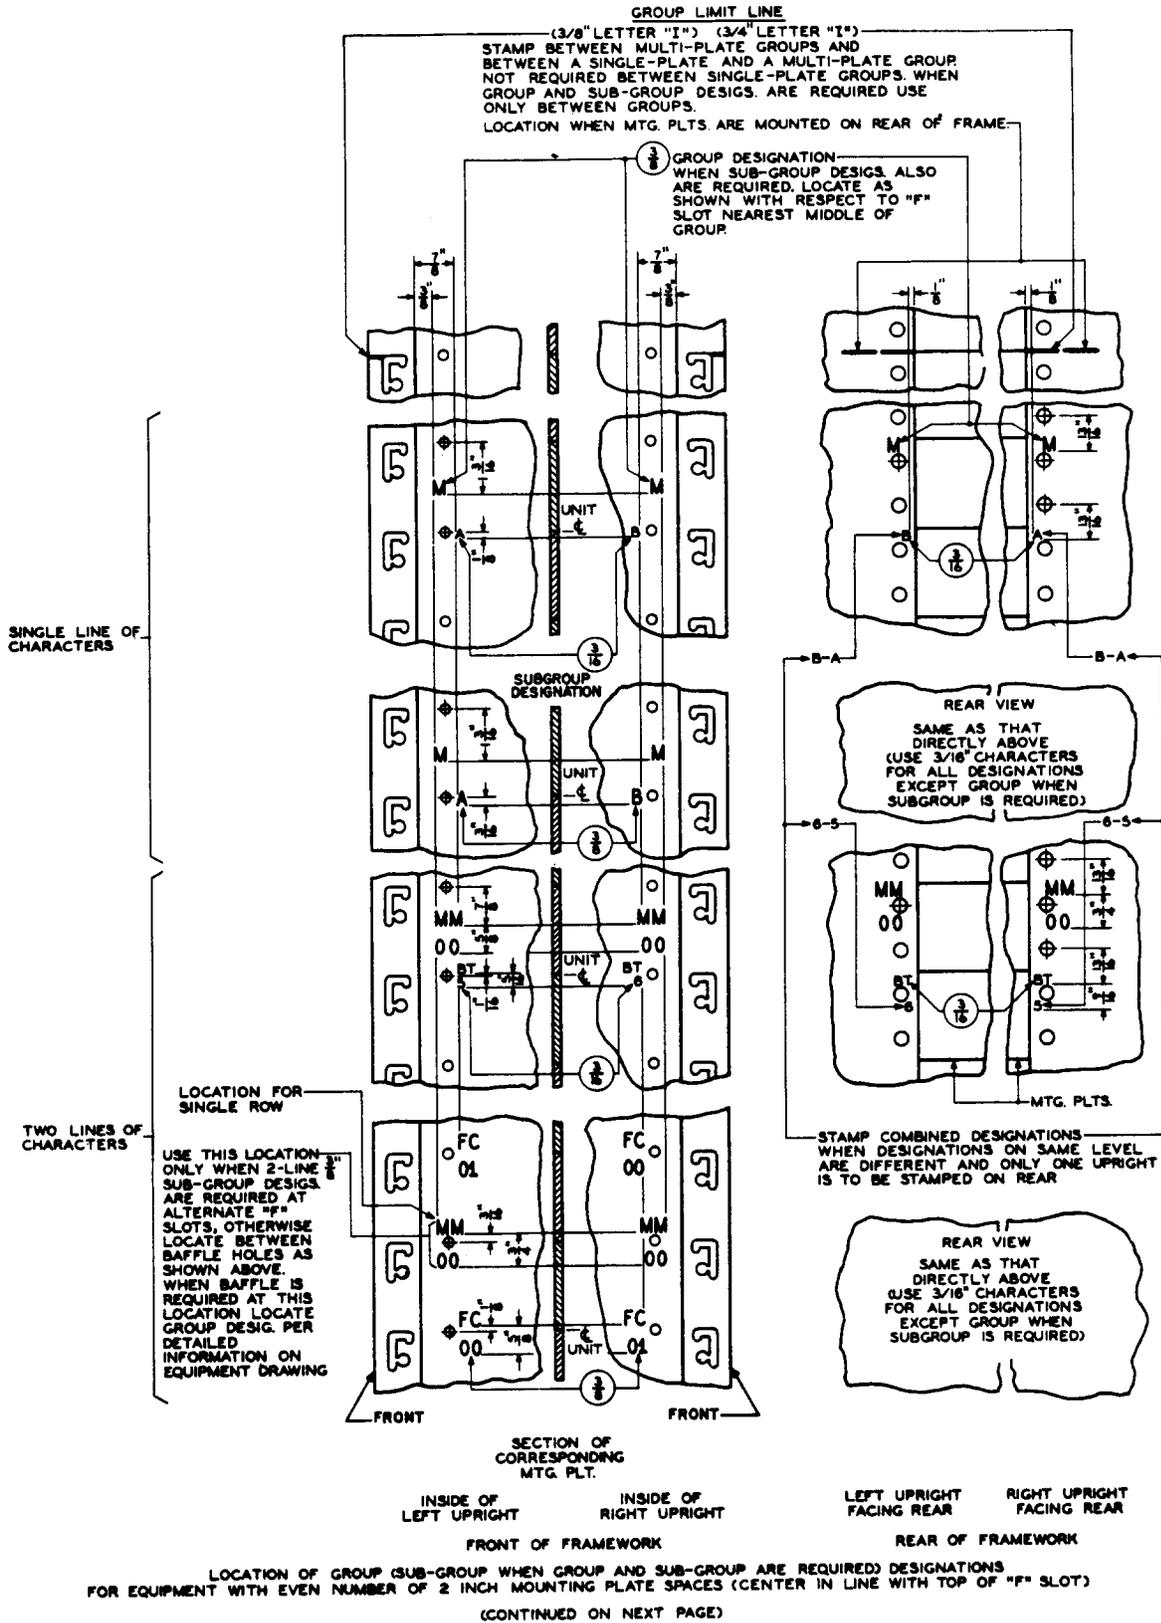

Fig. 23 – Frame Uprights on Box-type Frames — Group and Subgroup Designations
2.35 *When bay equipment is subdivided into two or more groups arranged one above the other*, the various groups shall be identified by means of group or subgroup designations, or both, when specified on the associated equipment drawing. (See Fig. 23.)